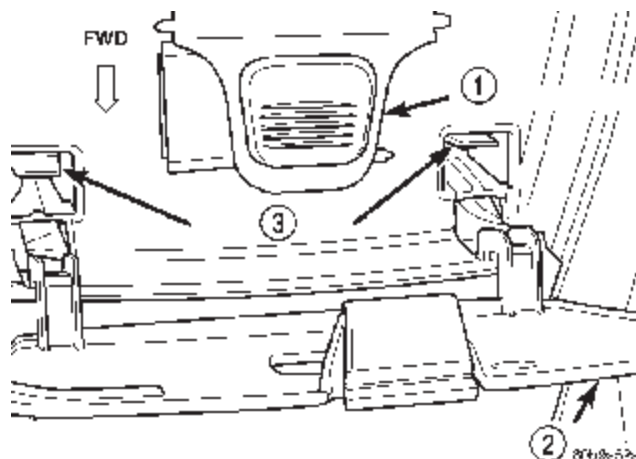

Fig. 4 Overhead Console Latch Tabs
(1) Disconnect and isolate the battery negative cable.
(2) Open the garage door opener storage bin door and locate the two overhead console latch tabs near the front of the bin (Fig. 4).
(3) While pulling gently downward on the front of the overhead console, push the latch tabs forward until each latch is disengaged from its receptacle in the inner roof panel.